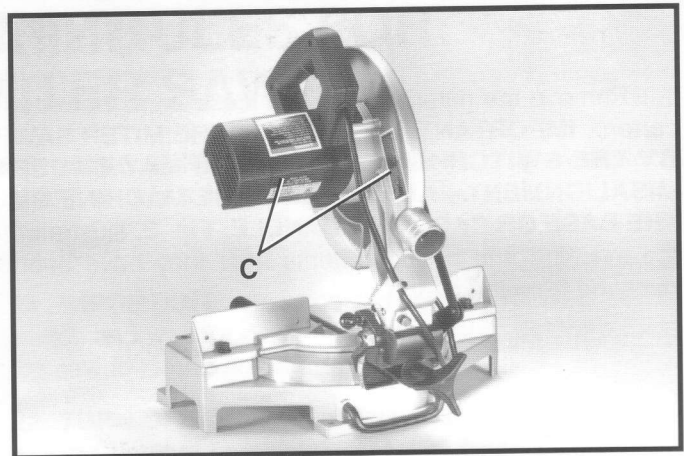

Fig. 7
2. The cuttinghead (C) can then be moved to the up position, as shown in Fig. 7.